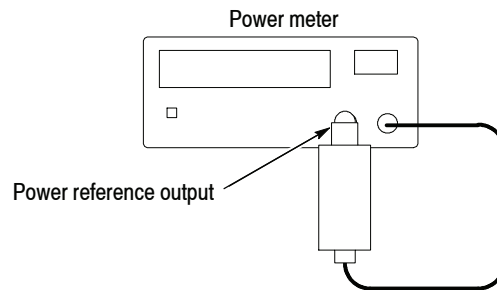

Figure 3-8: Hookup for calibrating the power sensor
- d. Connect the RF input of the power sensor to the power reference output of the power meter. See Figure 3-8 on page 3-29.